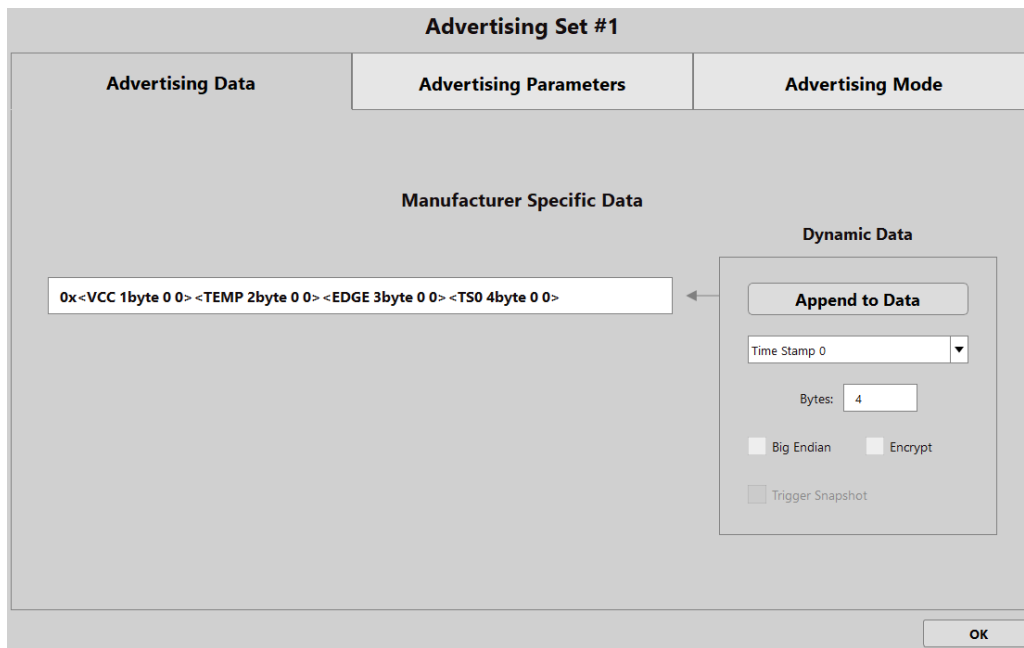

Figure 11 : Selecting extended data
- If it is extended data, select the data from the pull-down list from Dynamic Data box and then press the button “Append to Data”. The added extended data will be shown in the data entry inside “<>”, as shown in Figure 11. For most of the extended data, the user can configure the number of bytes to be advertised. For example, the “Adv Count” (advertising count) internally has 4 bytes. A user can configure the device to advertise only 2 LSB bytes by changing the number of bytes to 2. Depending on the data source selected, the endianness, encryption option and Trigger Snapshot option can be selected collectively or respectively.